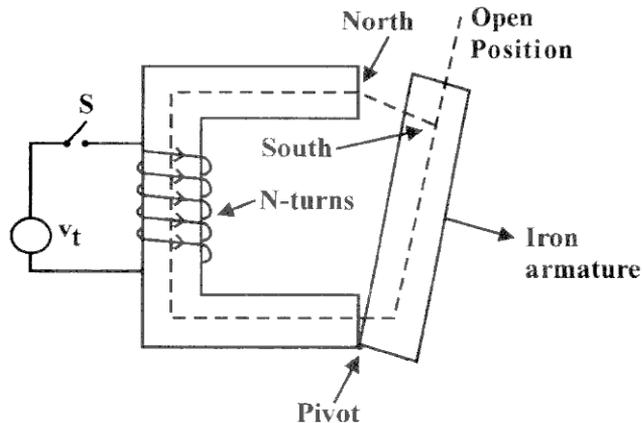

Fig. 1. (b)
- (b) For the simple magnetic relay of Fig. 1. (b), 1×10 the variation of flux linkage ψ in terms of current i and displacement x from the open position is given by the relation $\psi = ix^{1/2}$; obtain an expression for the magnetic force.